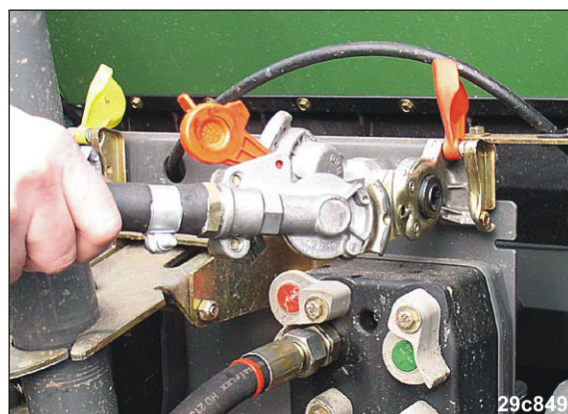

Fig. 137
2. Release the coupling head (Fig. 137) of the supply line (red).